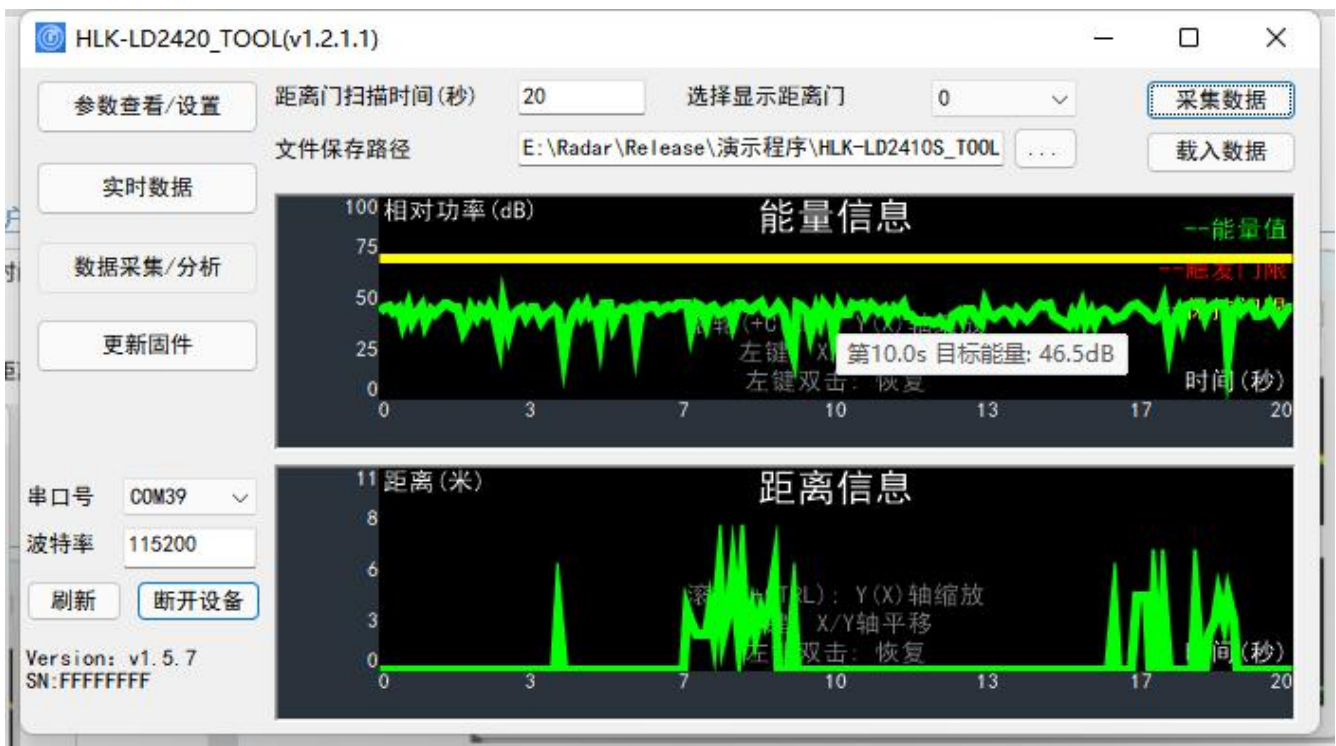

Figure 4-7 Data viewing page
- Step 4: If you want to view the specific data of a certain point on the curve, place the mouse cursor at the position of interest on the curve, and a floating frame will appear next to the cursor. The energy value or distance information at that location is displayed, as shown in Figure 4-7.